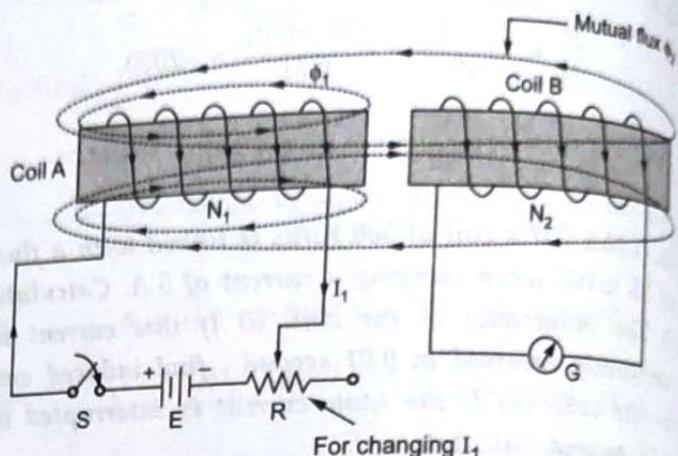

Fig. 1.25.1 Mutually induced e.m.f.
- Consider two coils which are placed adjacent to each other as shown in the Fig. 1.25.1.
- Part of this flux will link with coil B i.e. will complete its path through coil B as shown in the Fig. 1.25.1. This is the mutual flux ϕ_2 .